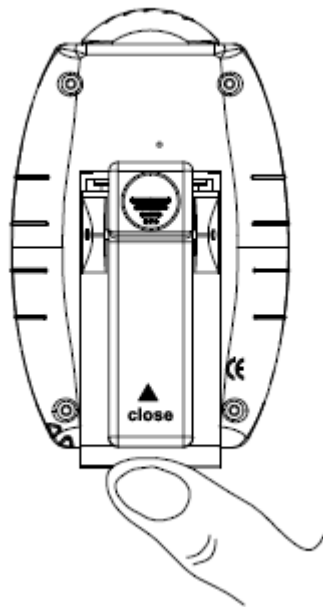

Figure 3
3. Close the battery door, as shown in Figure 3.